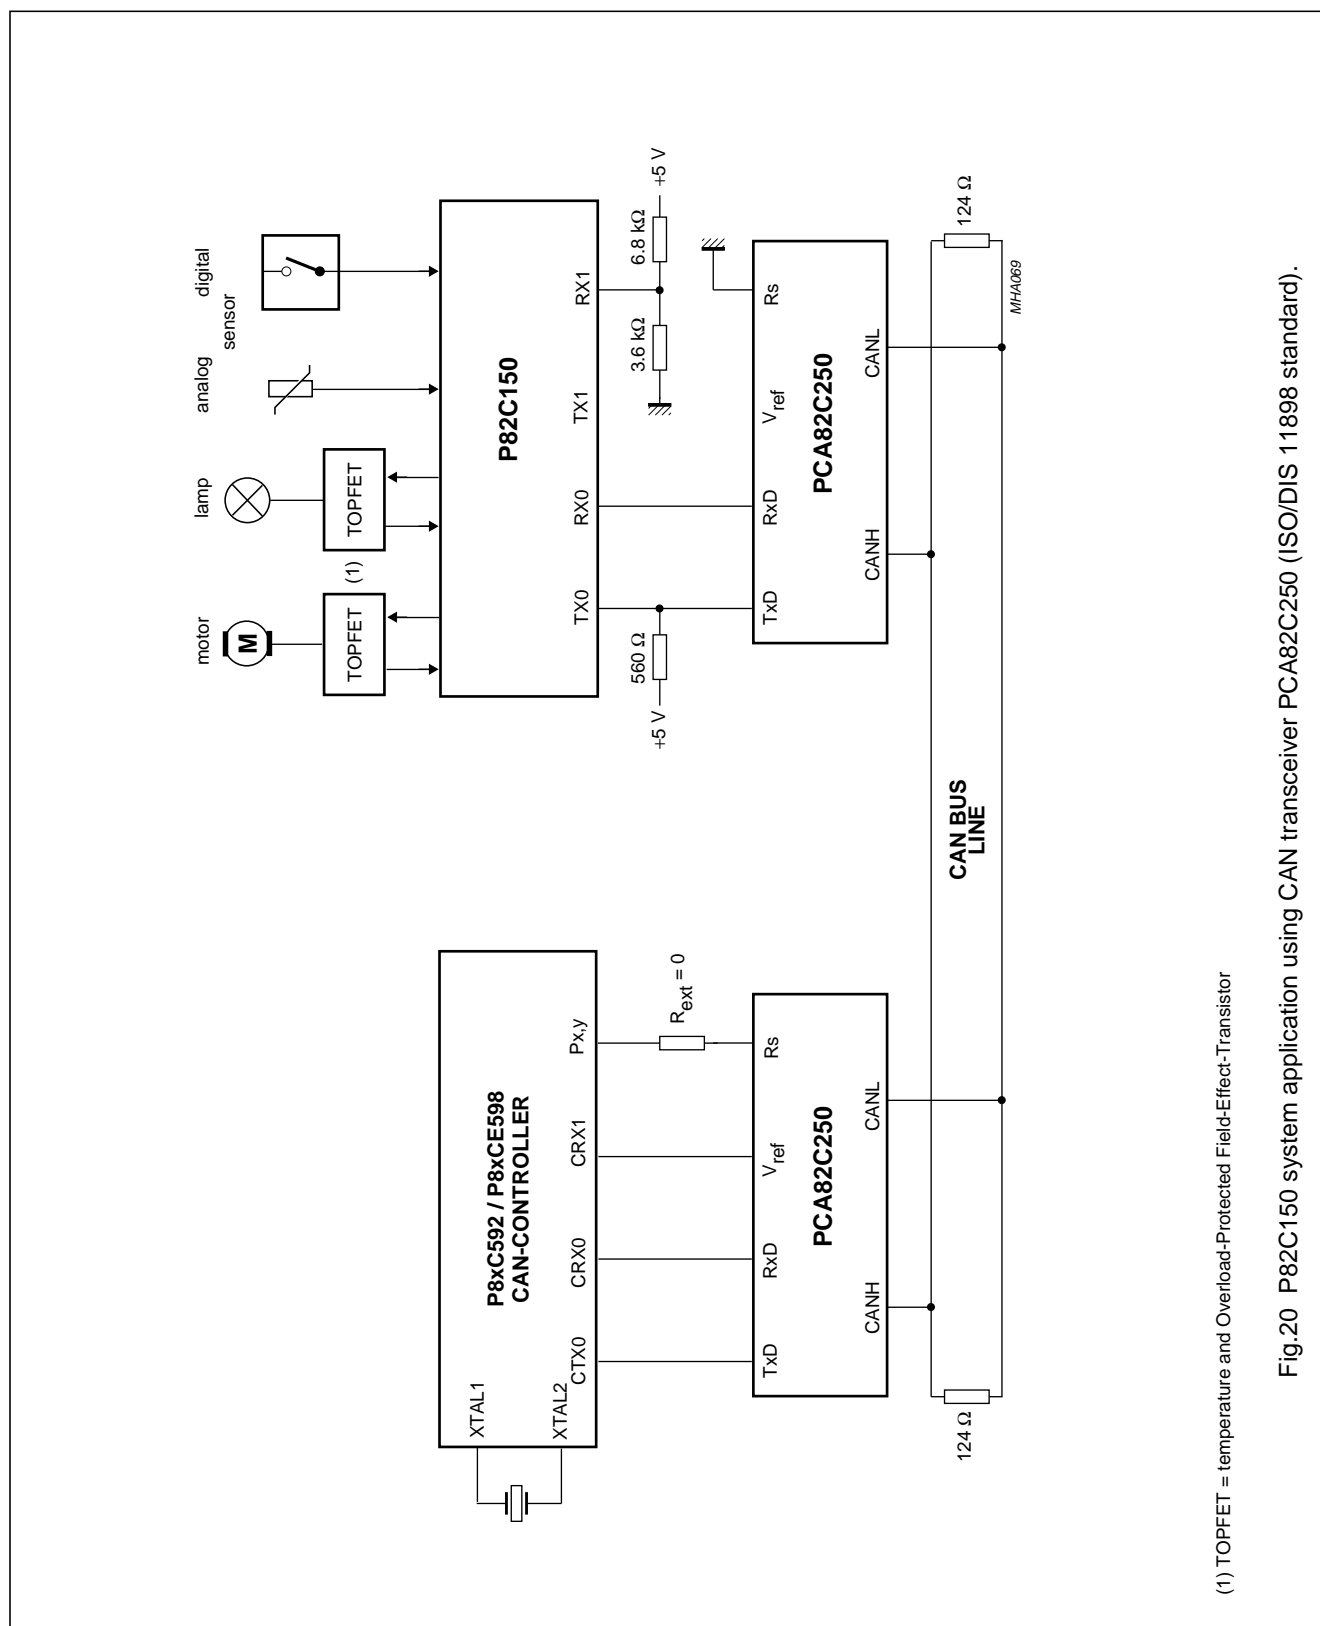

Fig. 20 P82C150 system application using CAN transceiver PCA82C250 (ISO/DIS 11898 standard).
The bit timing parameters refer to using a P8xCE598 or P8xC592 microcontroller with on-chip CAN interface as a host node (see Fig.20).
- The total in/out delay of external transceiver circuit is less than 180 ns (e.g. PCA82C250 CAN transceiver; see Fig.20).